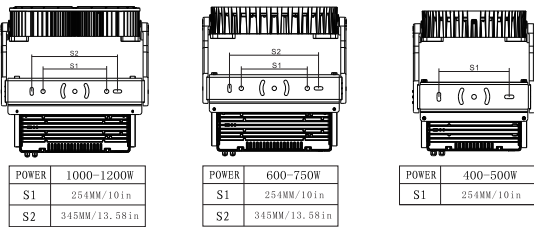

Figure 2
- 1. Mark the hole distance S1 or S2 shown in the product to be installed(Figure 2)